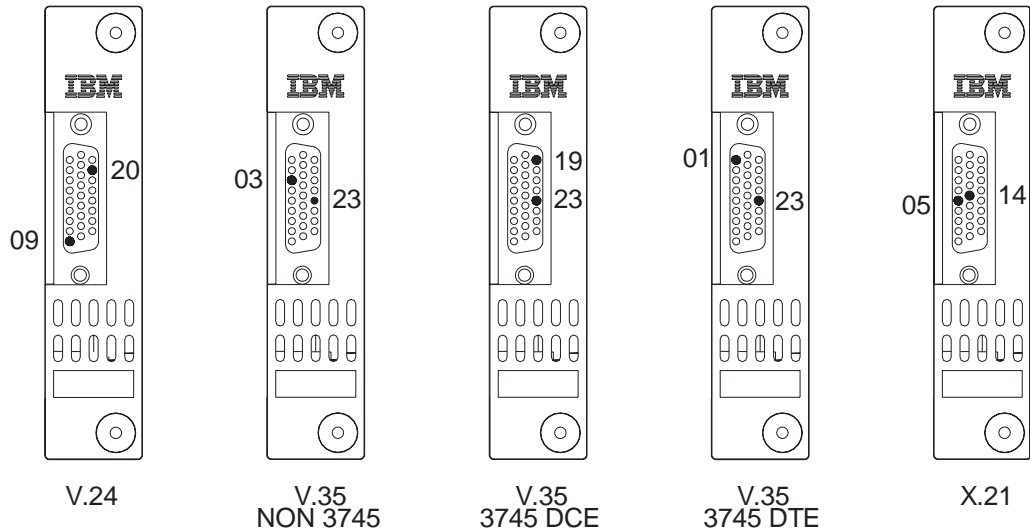

Figure 4-13. ARC Type
1. \_\_\_\_ According to the plugging sheet information, identify the ARC type (see Figure 4-13, note that ARC V.35 DTE is no more provided) and plug the ARC in the LCBB/LCBE locations (see Figure 4-9 on page 4-10).